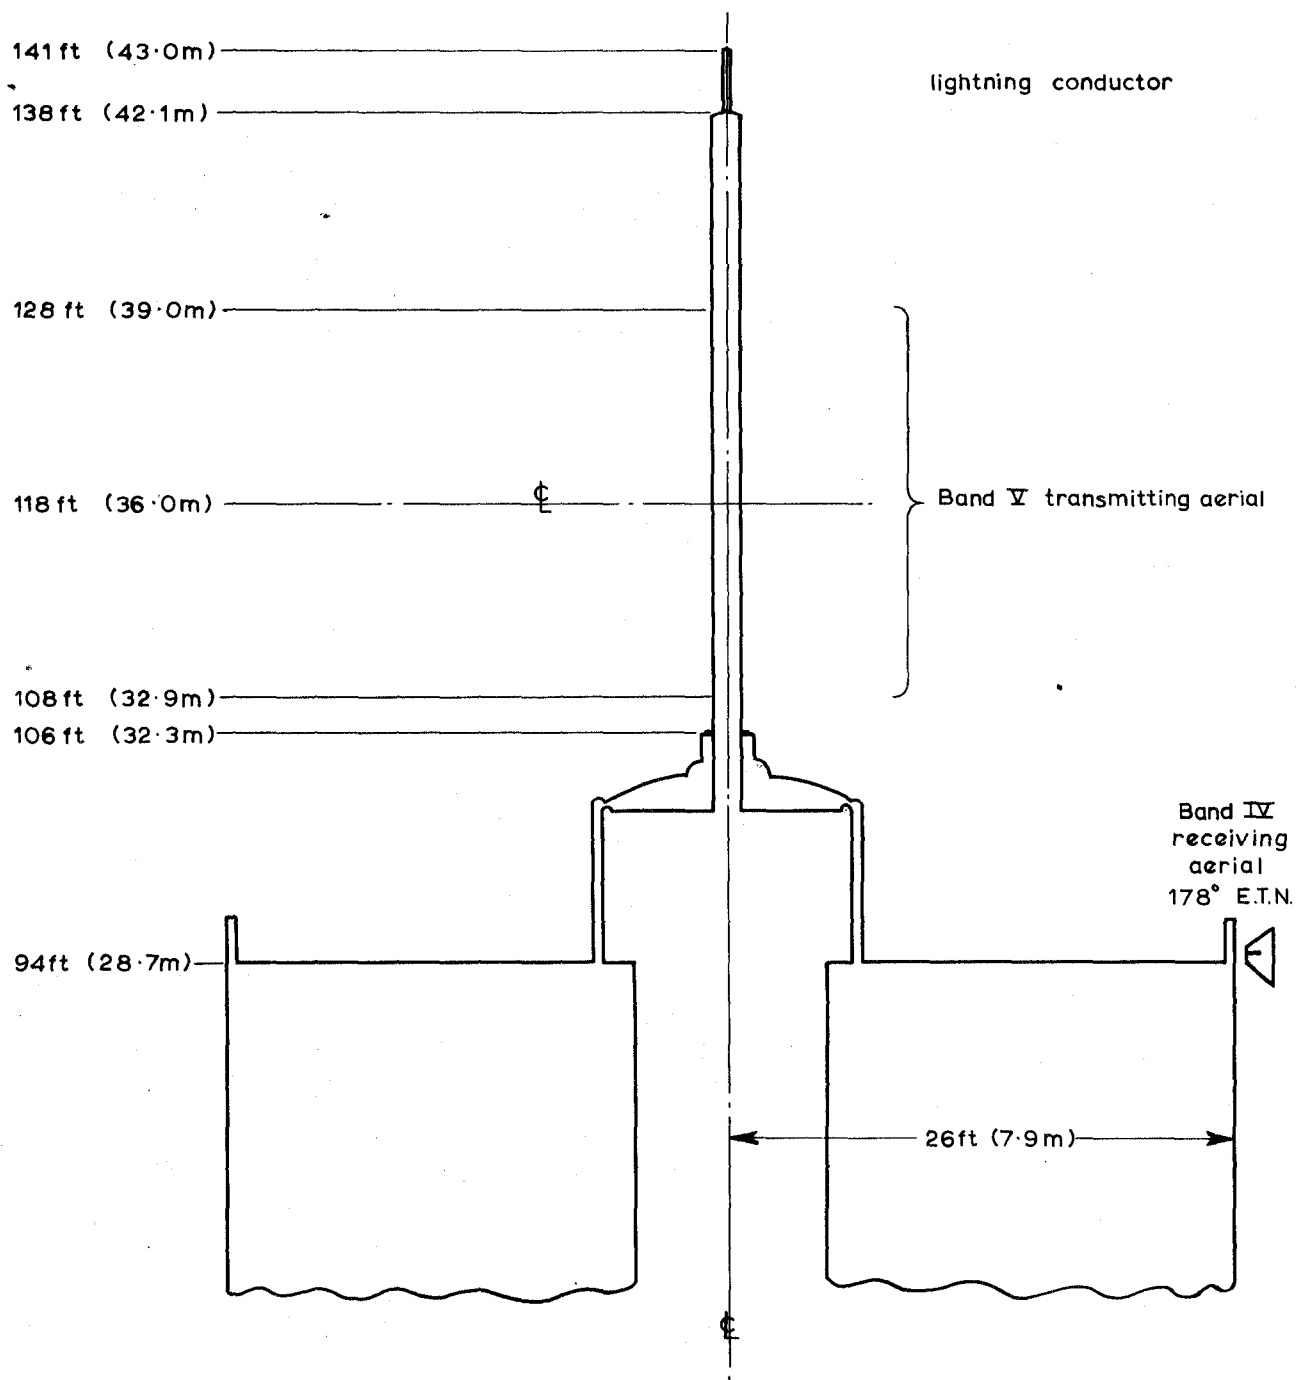

Fig 1. General arrangement of aerials on water tower
- General Arrangement:** See Fig. 1.